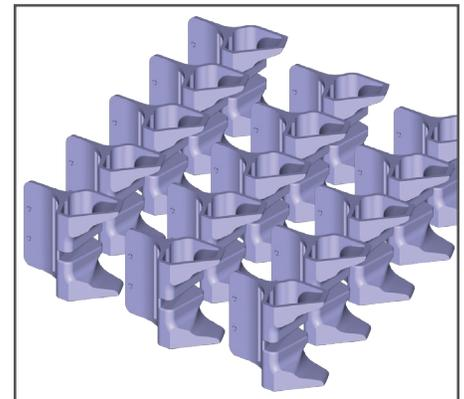

Figure 80: Maximize throughput with multi-part builds.
- Builds can be matched to shift schedules (Figure 80).